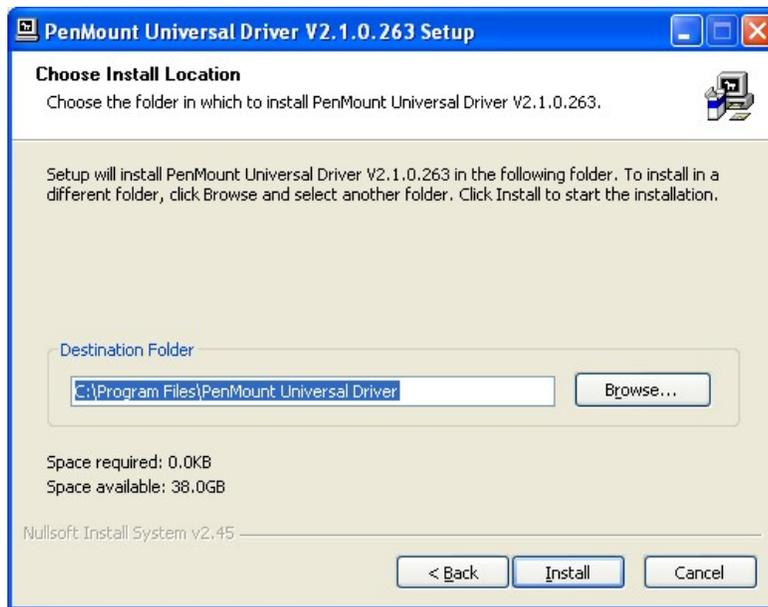

Figure 7-19: Touchscreen Driver Choose Install Location
Step 8: Browse for an install location or use the one suggested (**Figure 7-19**).